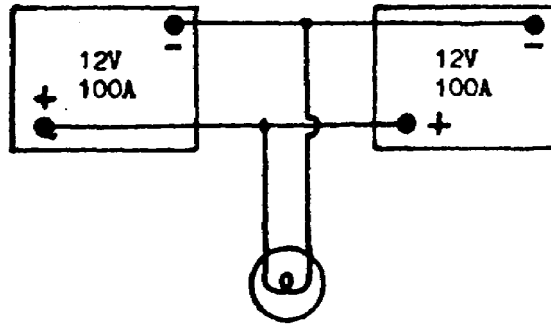

Figure 25. 24-volt, 200-ampere-hour supply.
f. Batteries are connected in series-parallel to increase both the voltage and ampere-hour rating. To demonstrate how to make use of the series-parallel connection let us say that we require a 24-volt, 200-ampere-hour power source. We will use four 12-volt, 100-ampere-hour batteries. The batteries are first set apart into groups of two. In each group the batteries are connected in series so they will provide 24 volts and 100-ampere-hours per group. Then, the two groups are connected in parallel to increase the capacity rating to 200 ampere-hours (fig 25).